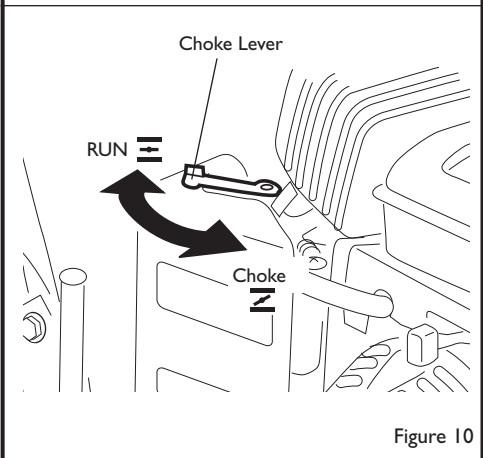

Figure 10
To start the engine, slide the choke lever to the CHOKE  position. After the engine has been running for 2-5 seconds, slide the choke lever to the RUN  position. (See Figure 10)
6. Slide the choke to the CHOKE position. (See Figure 10)